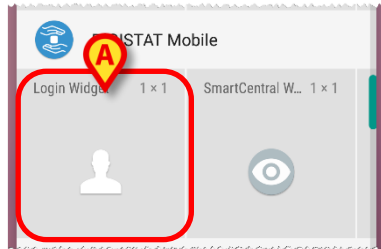

Fig 203
- Push the icon shown in Fig 203 **A** and release it on the device screen.